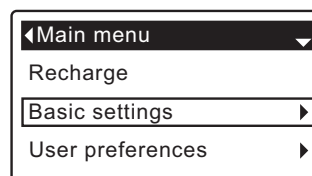

FIG. 24
1. From any of the rolling status screens, press the SELECT (O) button to display the **Main menu**.
2. Press the DOWN (▼) button to scroll through the menu options until **Basic settings** is highlighted (See Figure 24).